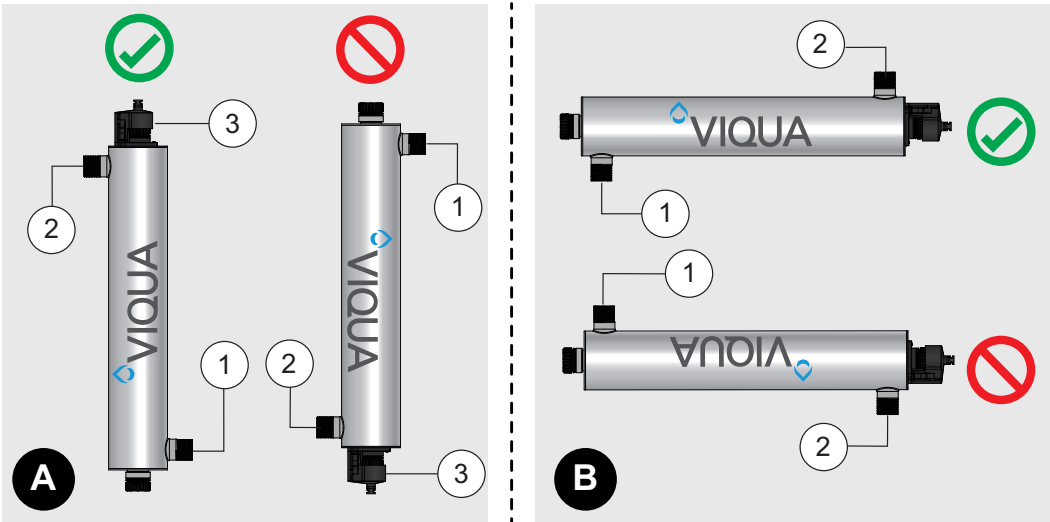

Figure 4 Installation - Vertical and Horizontal
The UV System is designed to be mounted either horizontally or vertically at the point-of-use or point-of-entry depending on the specific flow rate of the unit. Refer to Figure 4.
- For vertical mounting, the Lamp Connector **must** be on top (Figure 4, Detail A).
- For horizontal mounting, the outlet port **must** be pointing upward to ensure that air can be purged from the UV Chamber (Figure 4, Detail B).